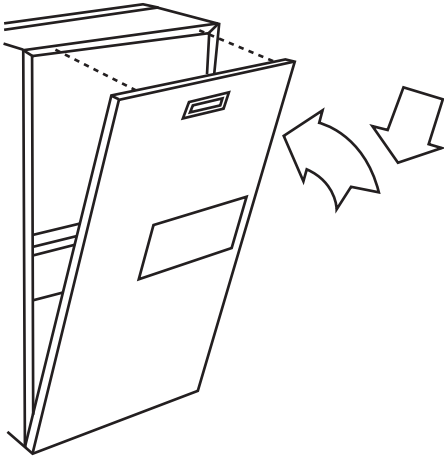

Fig. 12 - Furnace Door Replaced
7. Replace main furnace door. See Fig. 12.